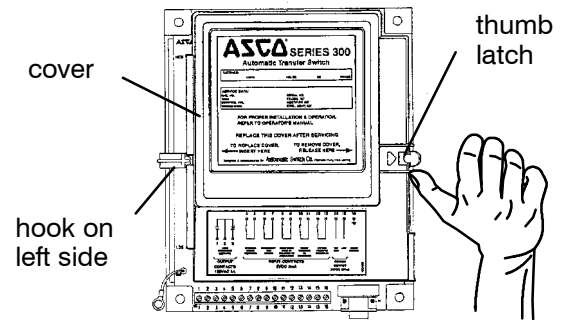

Figure 4-1. Controller cover latch.
- Remove cover from the controller by releasing latch on right side with your thumb. See Figure 4-1.